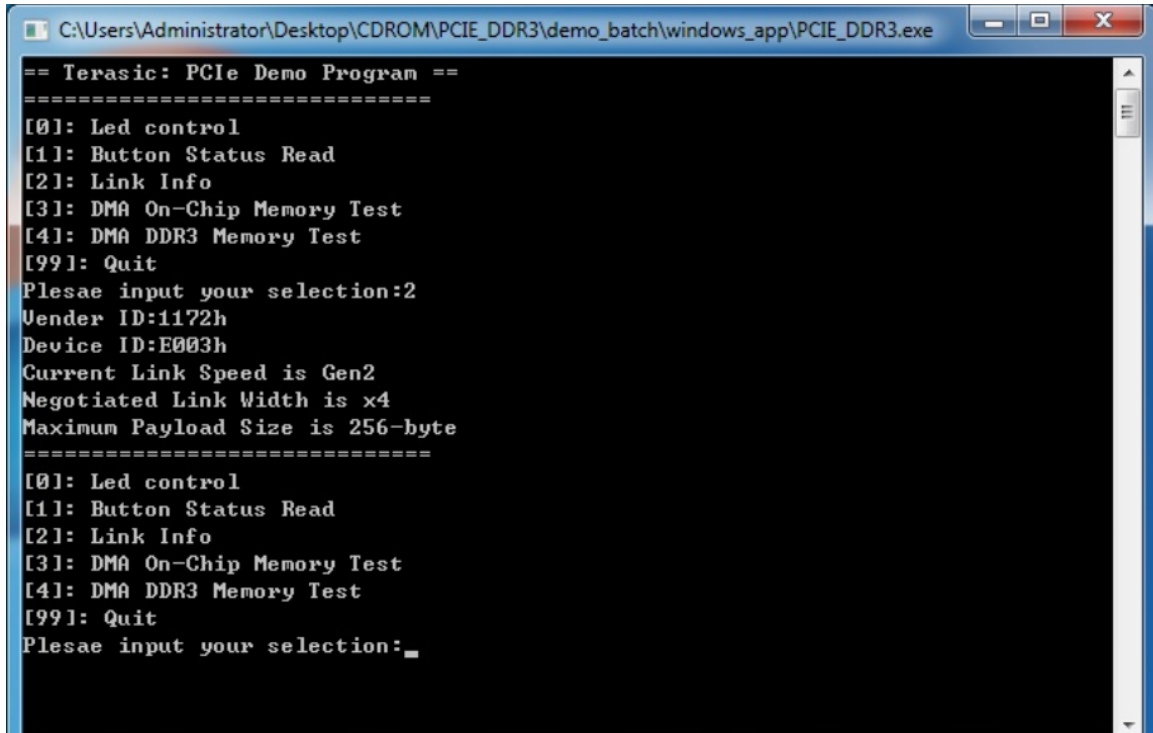

Figure 0-17 Screenshot of Link Info
8. Type 2 followed by the ENTER key to select Link Info item. The PICe link information will be shown as in **Figure 0-17**. Gen2 link speed and x4 link width are expected.